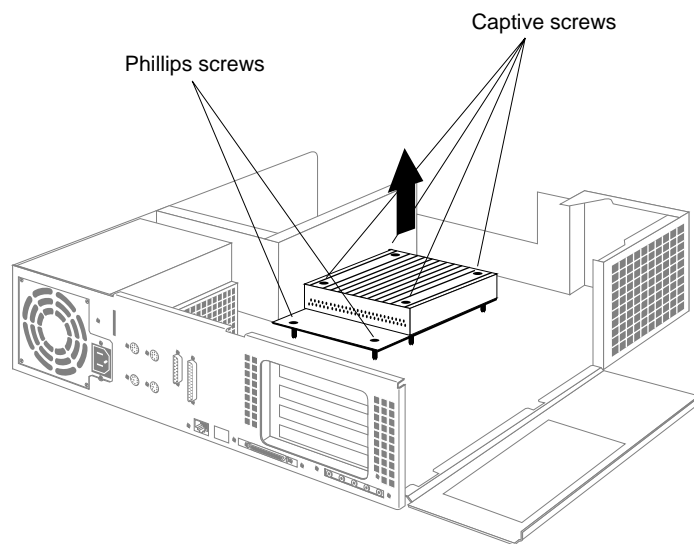

Figure 8-17 Removing the R4400 200 MHz CPU Module
6. Remove the R4400 200 MHz CPU module, as shown in Figure 8-17.